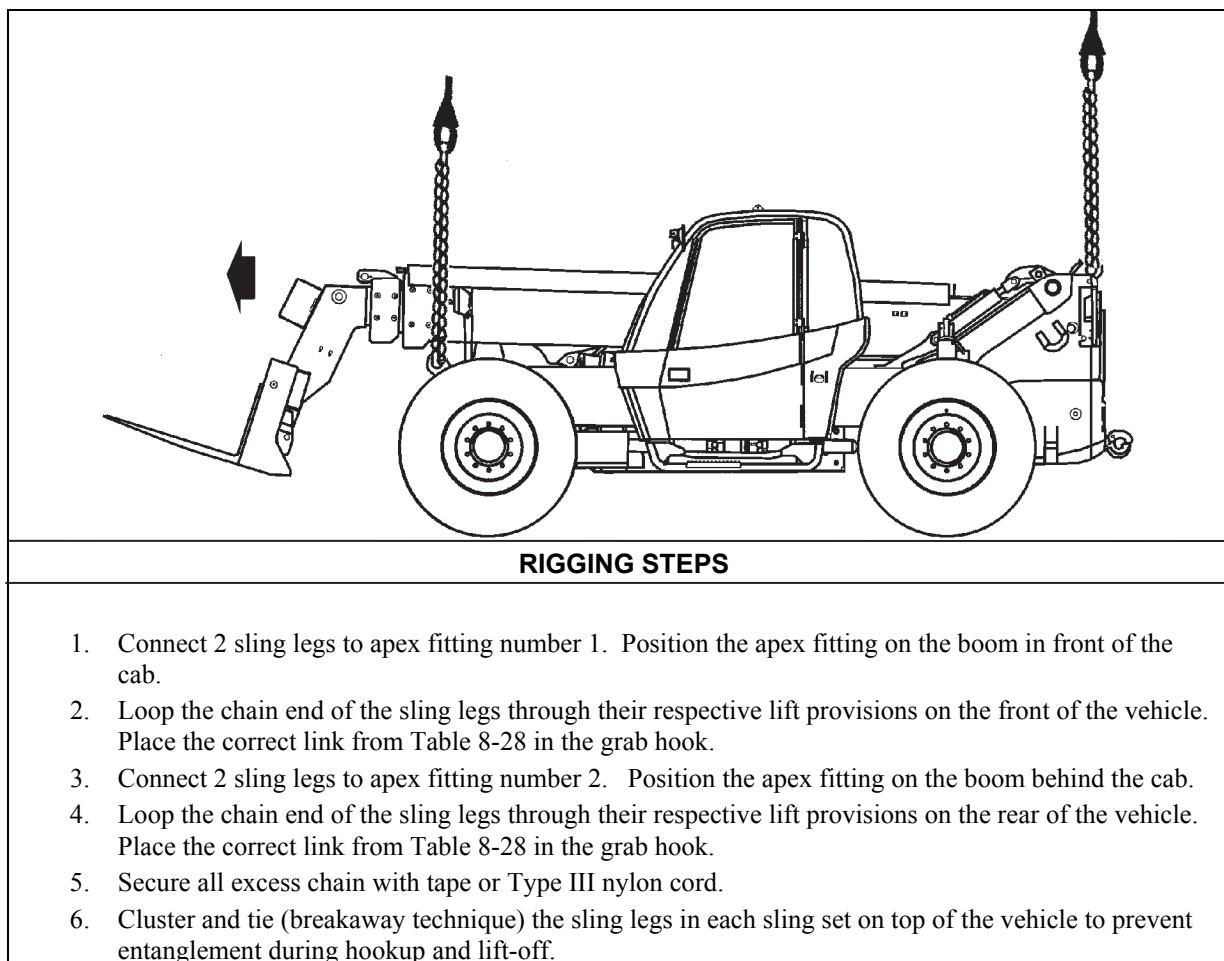

Figure 8-28. Extendable Boom Forklift (EBFL) (New Version)
- **Rigging.** Rig the load according to the steps in Figure 8-28.